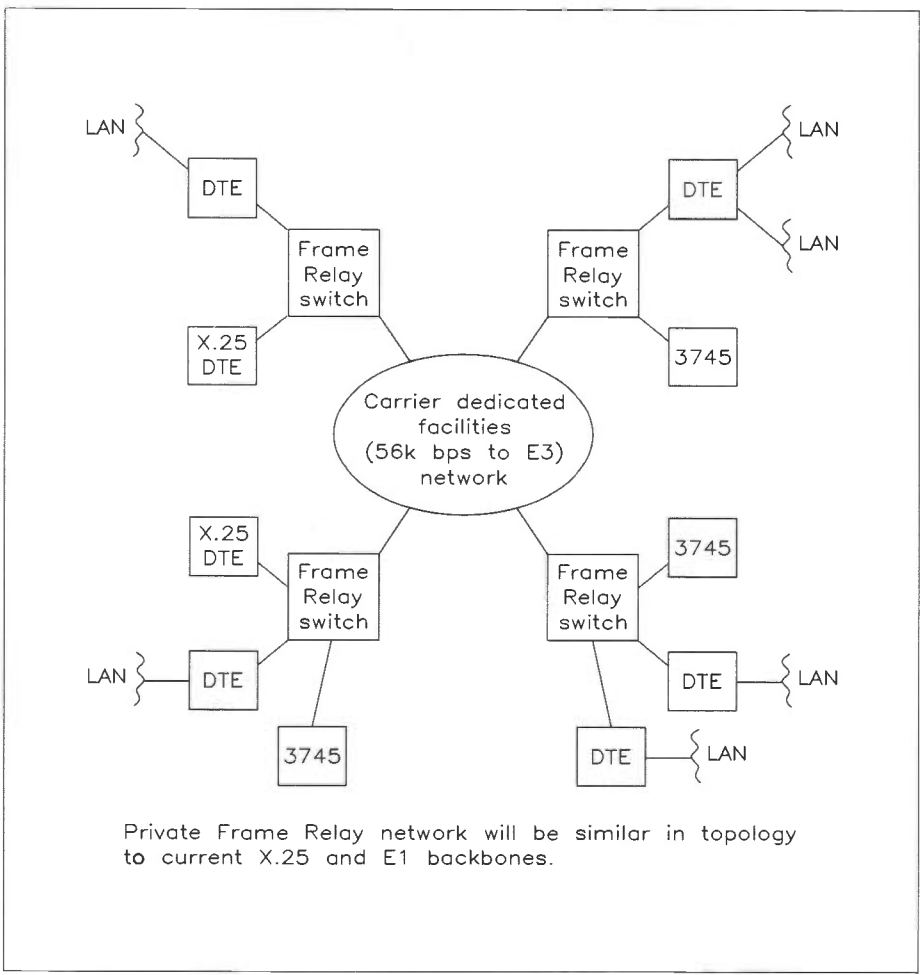

Figure 3. Upgrading to private Frame Relay.
15. Speaking of evolving networks, does Frame Relay replace a private X.25 network? Most of the preceding comments about E1 networks apply here as well. Although X.25 packet networks provide excellent functions now, Frame Relay is still a slightly different animal. These X.25 based networks already have basic packet switching functions but, depending on the architecture, these functions may have to be revised significantly to provide the throughput and speeds expected from a frame transporting network (see Figure 3). Once again, the move to a Frame Relay network is a major step, so it is worthy of consideration on its own. Upgrading the current network should be considered as a viable option, but this option will not always be appropriate. Remember, though, that while Frame Relay provides a quite significant subset of the functions of X.25, it is not a replacement per se. If you need all of the capabilities of X.25, especially guaranteed delivery of data, you still need X.25.